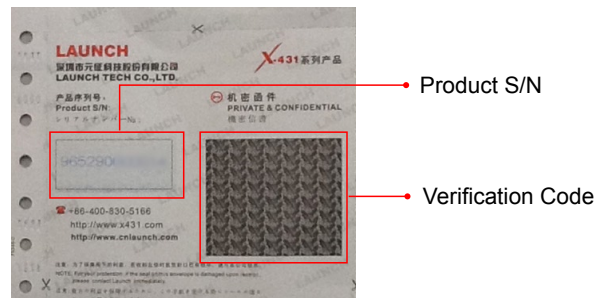

Fig. 5-9
**Note:** The Serial Number and Verification Code can be obtained from the password envelope. See Fig. 5-9.